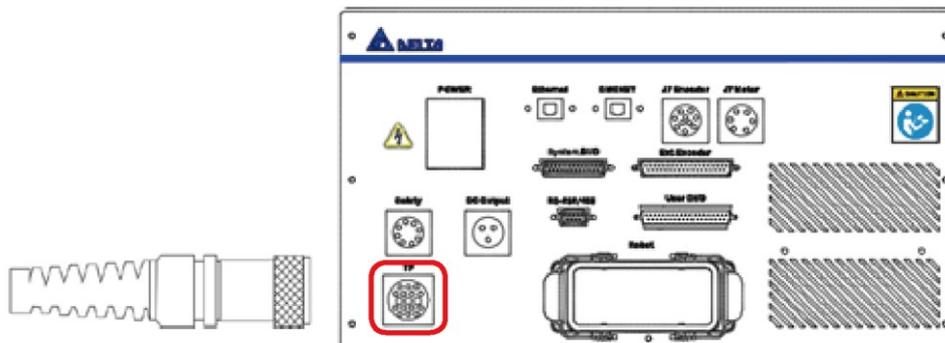

**Figure 5.13 Handheld teaching pendant Enable switch location**
- When using the teaching pendant to Jog the robot, your left hand must press down on the middle of the Enable switch located on the back of the teaching pendant to Jog the robot. Pressing this switch to any other position cuts all AC power. Figure 5.13 shows the Enable switch on the back of the teaching pendant.